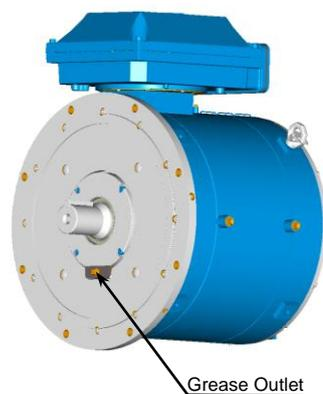

Figure 3. Location of the grease outlet plug in D-end.
3. Dismount plug (R ½") during re-greasing (see figure 3).